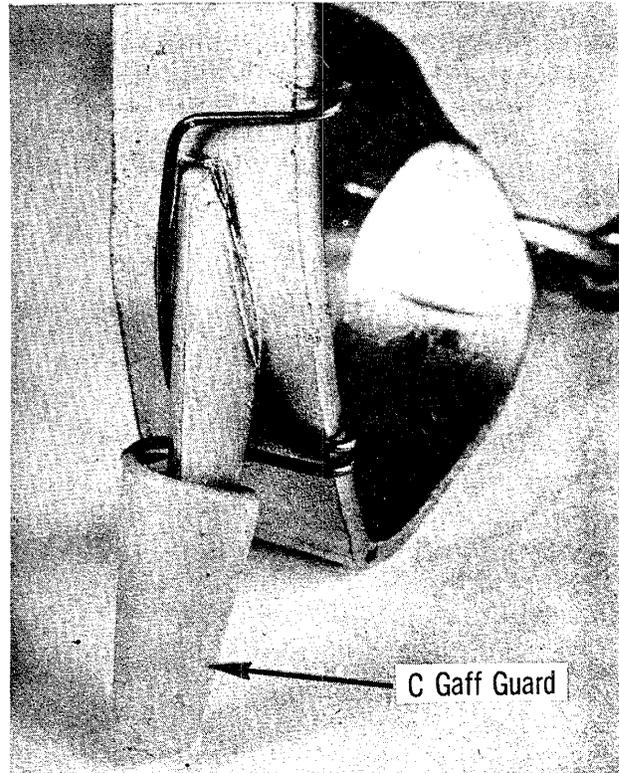

Fig. 7—C Gaff Guard Installed
2.07 Gaff guards are used to protect gaffs and workmen when climbers are not being used. They also protect other tools from damage that are stored in vicinity of climbers. Fig. 7 illustrates a gaff guard installed.